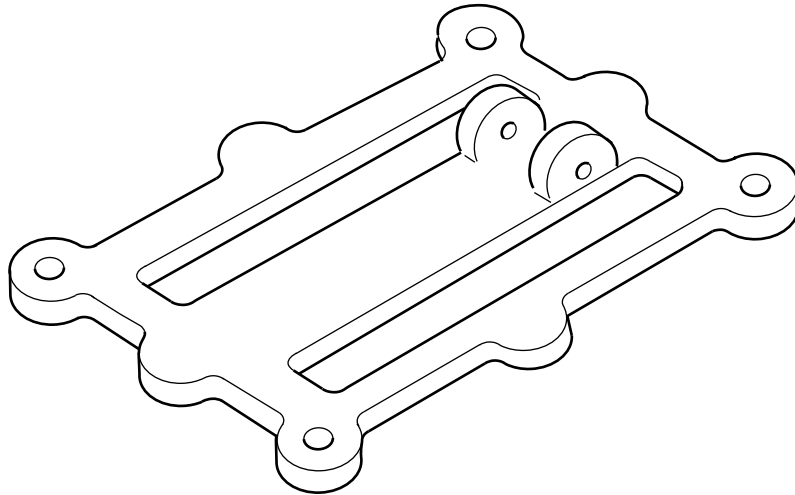

Fig. 7
(e) Fig. 7 shows the back plate from the door knocker.
- (i) State a **suitable specific material** for the back plate shown in Fig. 7.
- (ii) Describe, in detail, how the back plate shown in Fig. 7 would be manufactured as a batch of 5,000.